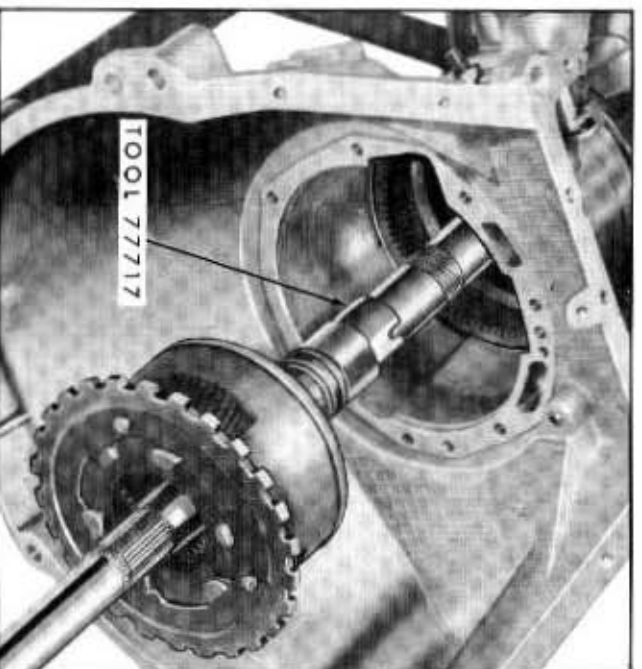

Fig. 7A-39—Pinion Carrier and Output Shaft Installation—(60C-4439)
- and output shaft in the case. See figure 7A-39. Mesh the pinion carrier gears with the internal gear and bottom the complete assembly in the case. Remove the guide sleeve from the output shaft.